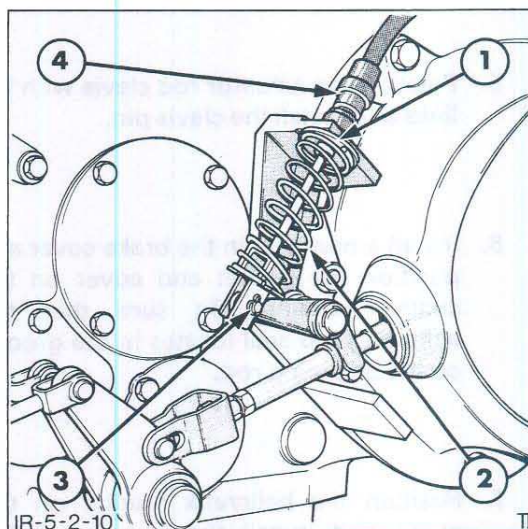

Figure 10
1. Disconnect the handbrake cables from the levers mounted on the rear axle housing, Figure 10. Remove the return spring and bracket from the cable.